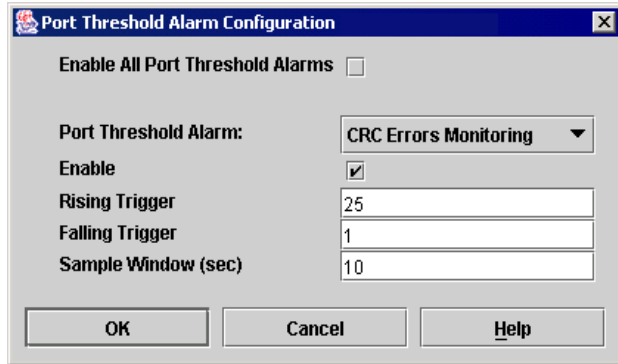

Figure 33 Port Threshold Alarm Configuration dialog
2. Select **Switch > Port Threshold Alarm Configuration**. The Port Threshold Alarm Configuration dialog shown in Figure 33 prompts you to enable or disable all alarms, select an event, set triggers, set a sample window and enable or disable an individual alarm.